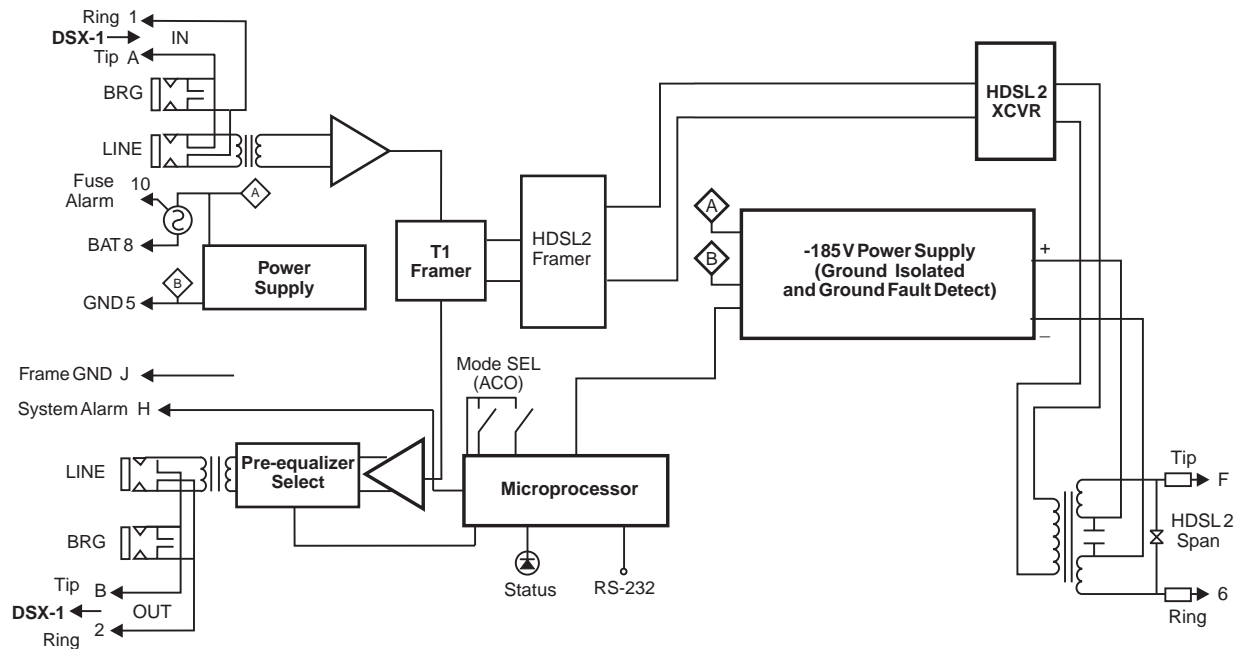

Figure 32. H2TU-C-319 List 2 Block Diagram
Figure 32 shows a block diagram of the H2TU-C. The H2TU-C receives a 1.544 Mbps DSX-1 data stream from the DSX-1 digital cross connect interface. The H2TU-C contains a DS1 frame synchronizer controlled by an 8-bit microprocessor that determines the type of framing on the DS1 stream and synchronizes to it. The H2TU-C recognizes Superframe (SF), including D4 or Extended Superframe (ESF) framing.